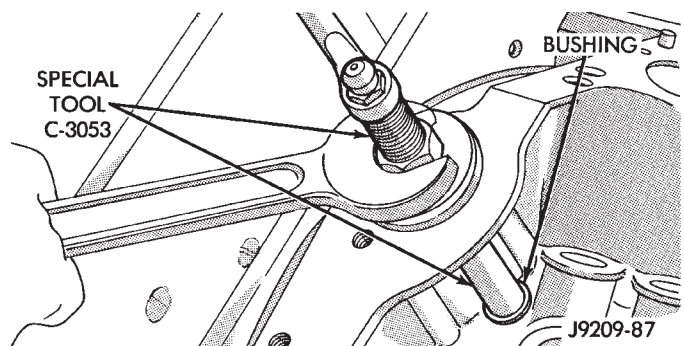

Fig. 23 Burnishing Distributor Driveshaft Bushing
- (3) As the burnisher is pulled through the bushing, the bushing is expanded tight in the block and burnished to correct size (Fig. 23). **DO NOT ream this bushing.**